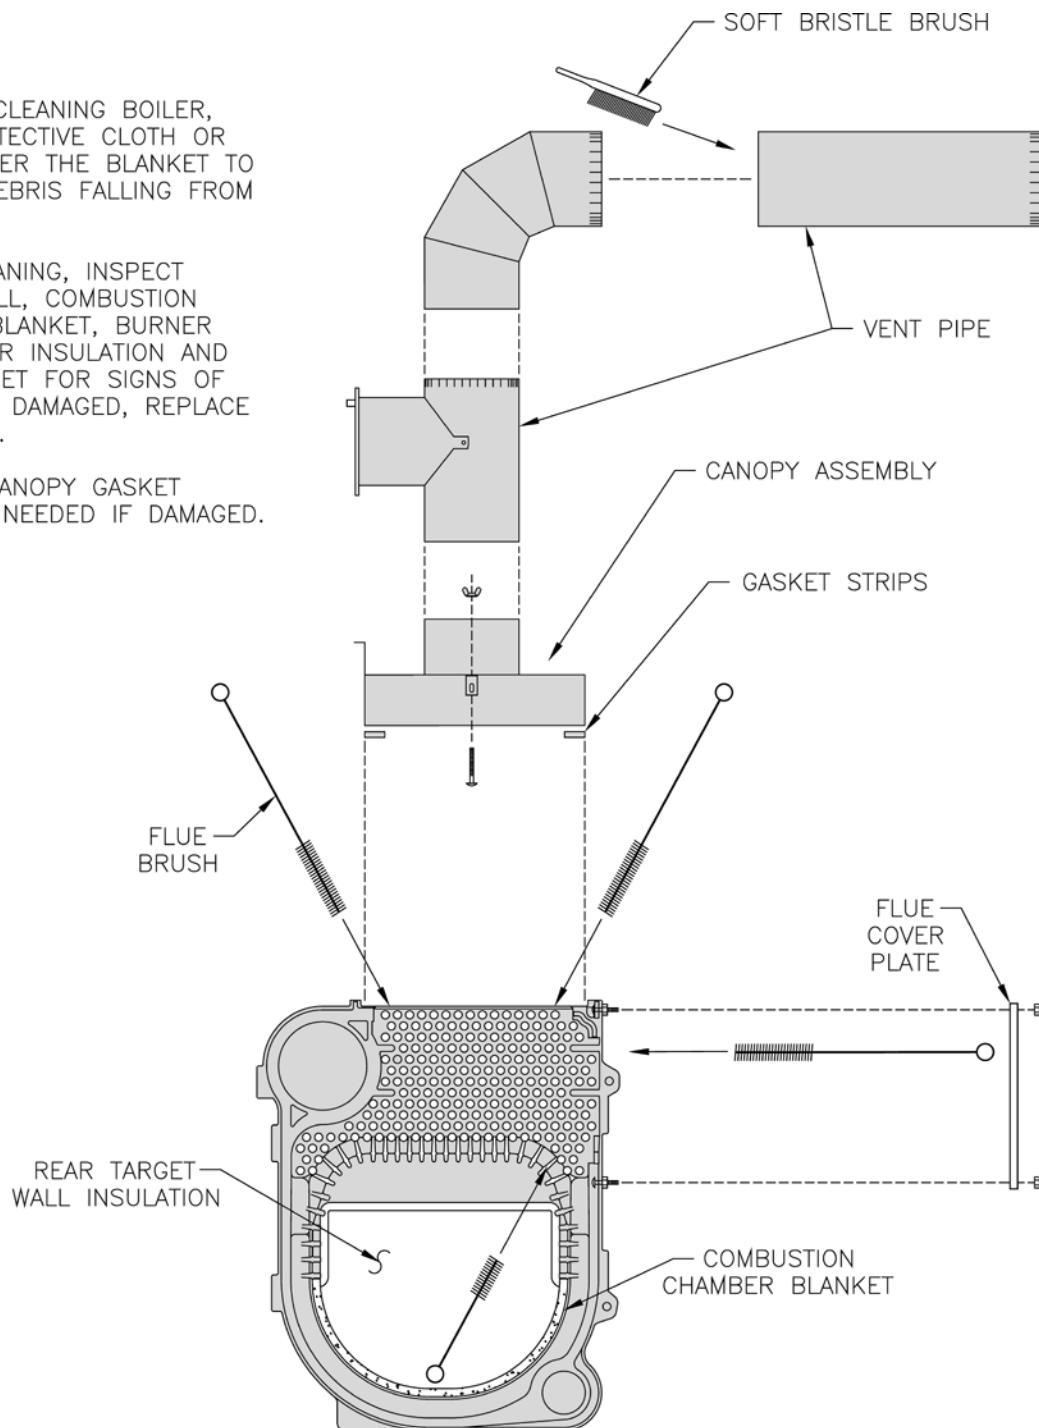

Figure 33: Cleaning of Boiler Flueways
A. CLEAN THE FLUEWAYS (See Figure 33).
2. For access to combustion chamber remove two (2) 5/16" - 18 cap screws, one on the right (1 1/4" long) and one on the left (3 1/4" long). If boiler is equipped with flexible fuel line(s), swing door open.